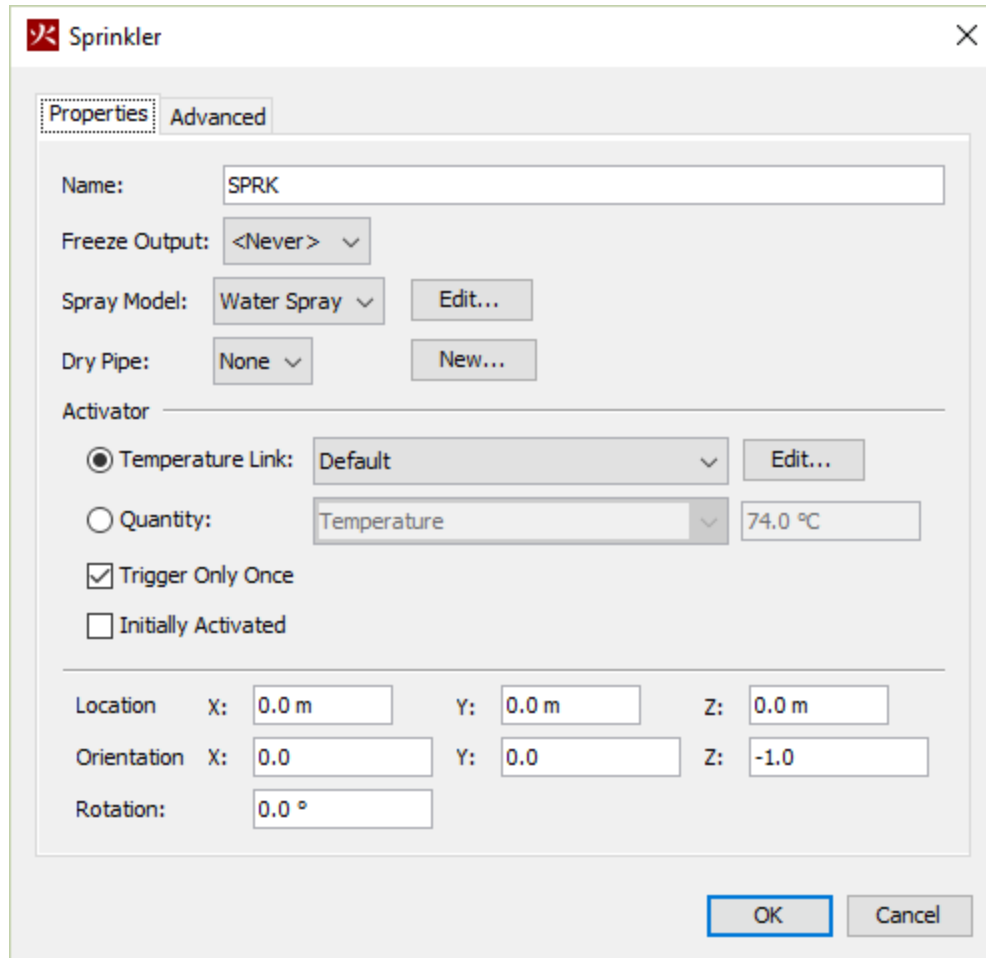

Figure 119. Creating a new sprinkler
1. On the **Devices** menu, click **New Sprinkler**. This will display the **Sprinkler** dialog, Figure 119.